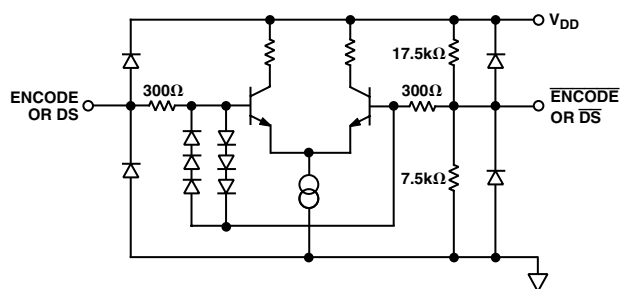

Figure 5. Equivalent ENCODE and Data Select Input Circuit
¹Gain error and gain temperature coefficient are based on the ADC only (with a fixed 2.5 V external reference).²3 dB bandwidth with full-power input signal.³t_V and t_{PD} are measured from the threshold crossing of the ENCODE input to valid TTL levels of the digital outputs. The output ac load during test is 5 pF (Refer to equivalent circuits Figures 5 and 6).⁴I_{IH} and I_{IL} are valid for differential input voltages of less than 1.5 V. At higher differential voltages, the input current will increase to a maximum of 1.5 mA.⁵Power dissipation is measured under the following conditions: analog input is -1 dBFS at 19.7 MHz.⁶Typical thermal impedance for the ST-44 (LQFP) 44-lead package (in still air): $\theta_{JC} = 20^\circ\text{C/W}$, $\theta_{CA} = 35^\circ\text{C/W}$, $\theta_{JA} = 55^\circ\text{C/W}$.⁷A change in input offset voltage with respect to a change in V_{DD}.⁸SNR/harmonics based on an analog input voltage of -1.0 dBFS referenced to a 1.024 V full-scale input range.
ENCODE and Data Select (DS) can be driven differentially or single-ended. For single-ended operation, the complement inputs ($\overline{\text{ENCODE}}$, $\overline{\text{DS}}$) are internally biased to $V_{DD}/3$ (~ 1.5 V) by a high impedance on-chip resistor divider (Figure 5), but they may be externally driven to establish an alternate threshold if desired. A $0.1\ \mu\text{F}$ decoupling capacitor to ground is sufficient to maintain a threshold appropriate for TTL or CMOS logic.
Note the 6-diode clock input protection circuitry in Figure 5. This limits the differential input voltage to $\sim \pm 2.1$ V. When the diodes turn on, current is limited by the $300\ \Omega$ series resistor. Exceeding 2.1 V across the differential inputs will have no impact on the performance of the converter, but be aware of the clock signal distortion that may be produced by the nonlinear impedance at the converter.